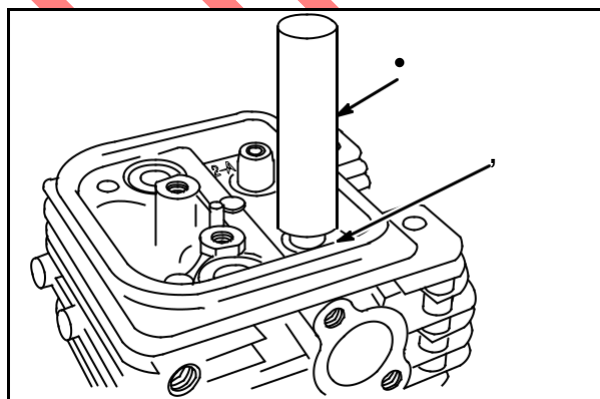

Fig. 17
Use Valve Guide Driver (1) #19416 to install new valve stem seals (2), **Fig. 17**.